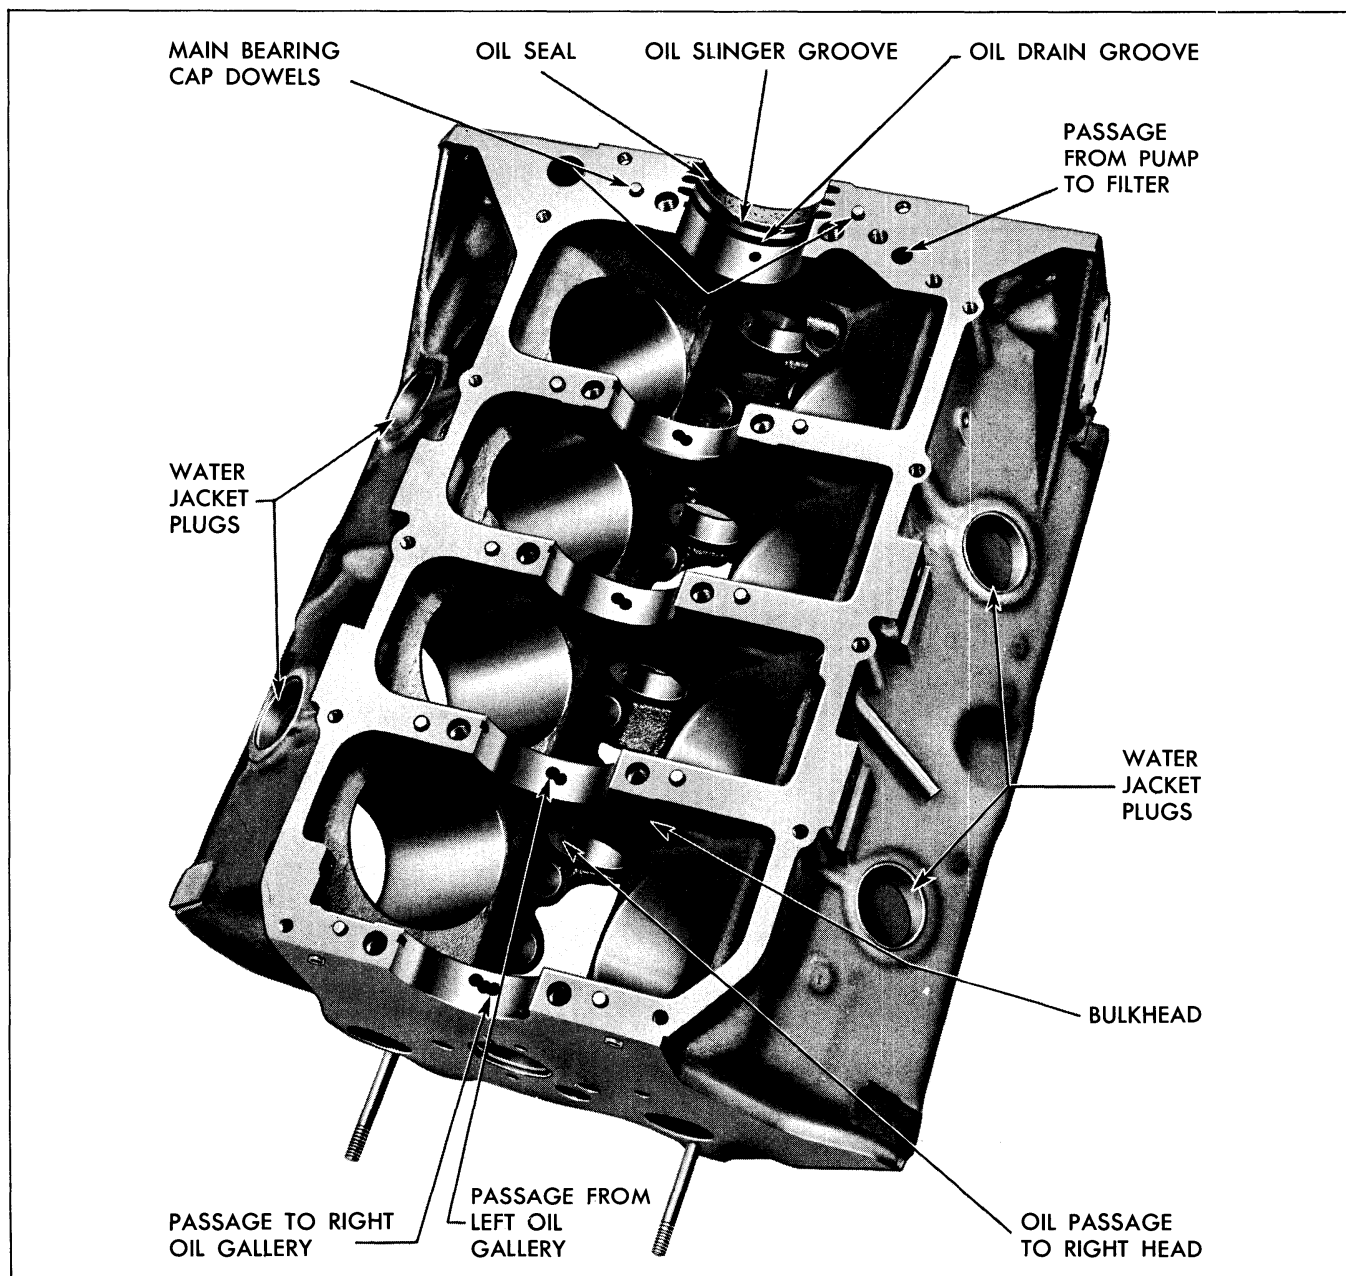

Fig. 6-77 Cylinder Block—View from Bottom
a. With cylinder block inverted, use pen light to see that passage from oil pump to filter is open (Fig. 6-77).
c. Visually check passage from each main bearing to corresponding camshaft bearing (Fig. 6-77).